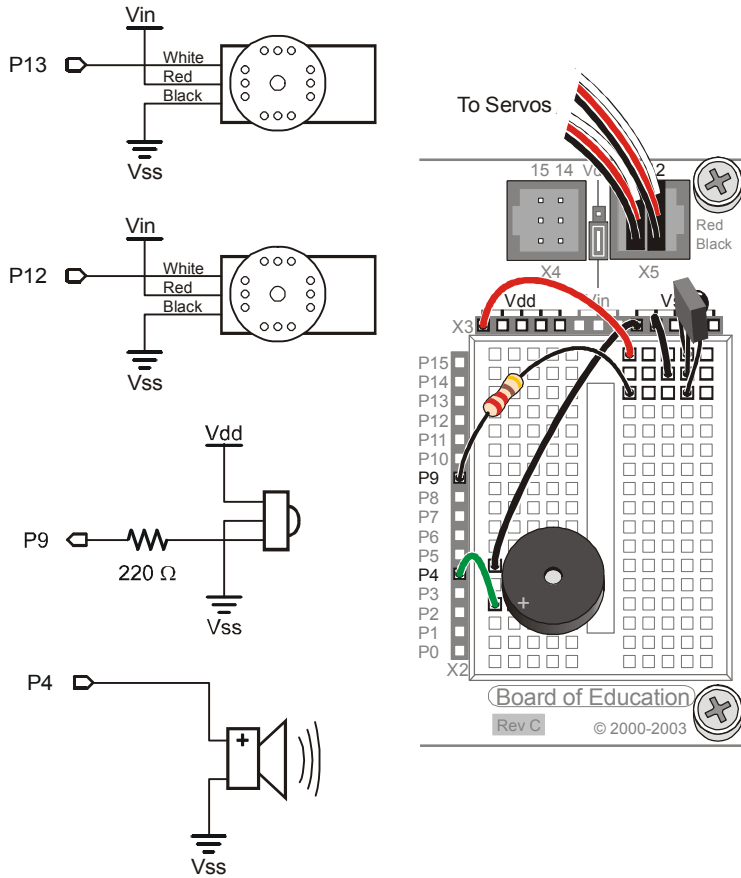

Figure 1-15
- (1) Piezospeaker
- ✓ Build/rebuild and test the Boe-Bot servo, IR detector, and piezospeaker circuits shown in Figure 1-15 as needed.